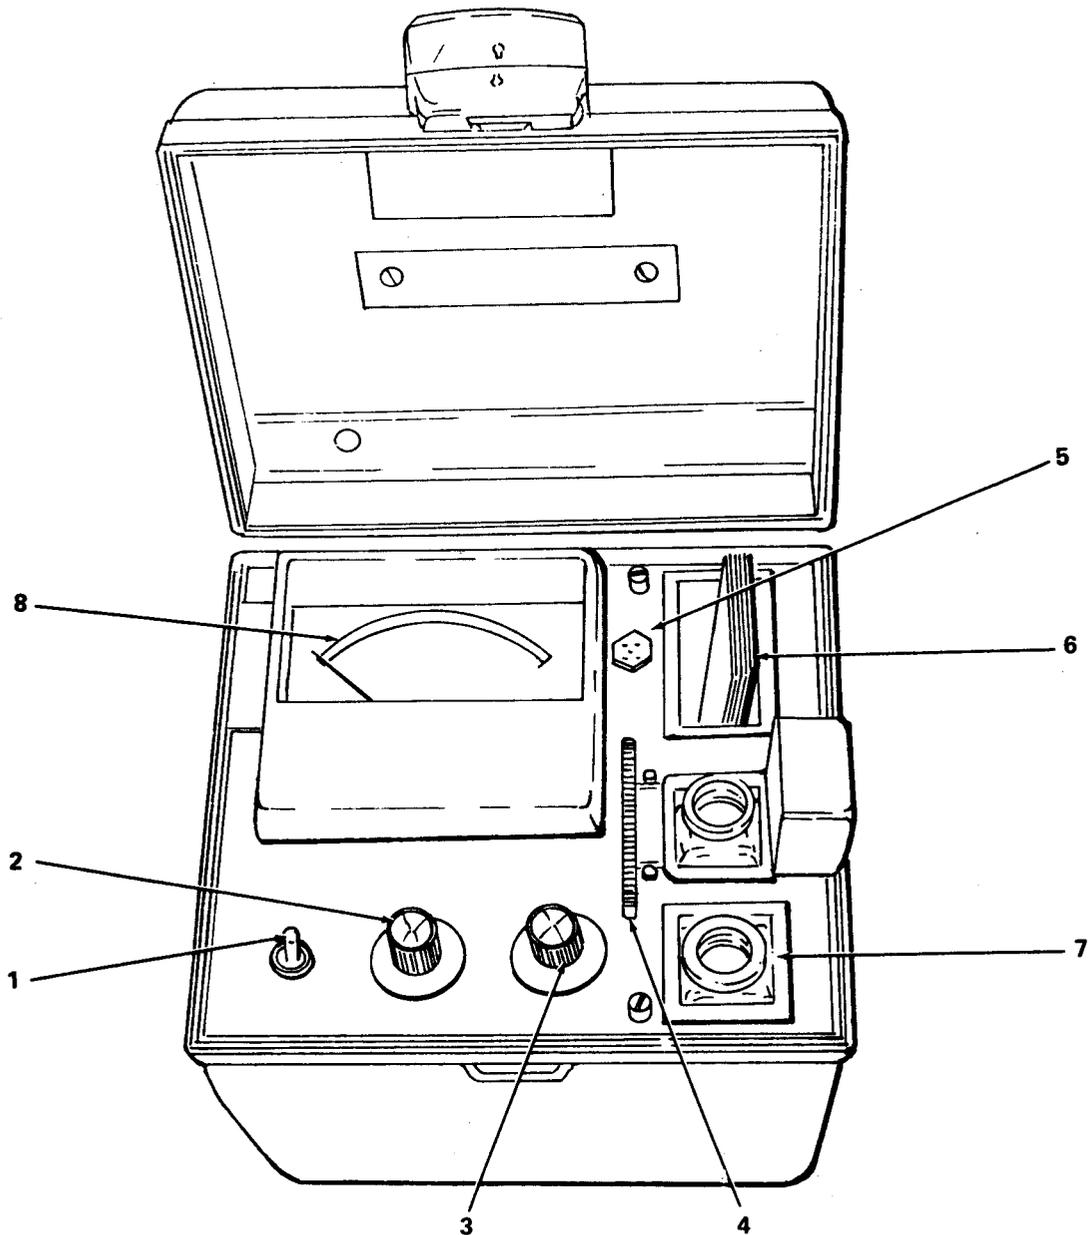

Figure 2-11. Spectrophotometer Control and Indicators
**(1) Controls and Indicators.** See figure 2-11 and table 2-6 for location and description of each control and indicator.
(3) Sample Preparation. The first task in any calorimetric test is to prepare the water sample. The applicable reagent or reagents are added to provide the color indicator for the substance to be measured. If the standardizing solution to be used requires some special treatment, it too is prepared at this time. Normally in the preparation of the sample, a minimum waiting period must be observed following the addition of the final reagent in order for the color to fully develop. There may also be a maximum time limit after which the color will begin to fade. Therefore, it is important to take the readings within the time period specified in the test to obtain accurate results.
b. Spectrophotometer in Use (fig. 2-11). The next step in the calorimetric test is to set up the spectrophotometer for the particular test. The standardizing solution (usually untreated water sample) is placed in the cell holder and the lid closed, the appropriate meter scale is inserted in the meter and the proper wavelength is dialed. Then the instrument is zeroed and standardized.
(1) To zero the instrument, the light switch is held in the zero check position while the zero adjust control is used to obtain a zero transmittance reading (needle aligned with the mark at the extreme left of the arc). If a % Transmittance-Absorbance meter scale is used, adjust for a % T reading.
c. After Use. Disconnect the battery pack cable and ensure that the AC voltage plug is connected next to the transformer on the power circuit board (figs. 2-11 and 2-12).
(1) The spectrophotometer, sample cells and instrument case should be kept clean at all times and spills should be wiped up promptly. The photocell window, located in the right-hand side of the cell holder, can be wiped with lense tissue or a soft, lint-free cloth which will not leave an oil film. Sample cells can be cleaned with soap and water or other cleaning solution. They should be rinsed
2-19. SPECTROPHOTOMETER TESTS (figs. 2-11 and 2-12). The spectrophotometer is used to conduct the tests in Paragraphs 2-19a through 2-19h. Prior to its use the operator should study paragraph 2-18, which describes the instrument and its operation. Accessory support items (lab-ware) for the tests are listed and located on the WQAS - Preventive Medicine Loading Diagram (fig. 1-5). In addition to the chemical precautions given in paragraph 2-18, the following electrical precautions apply.
a. Fluoride Test - SPADNS Method, 0-2.0 mg/l range (para 2-18 and figs. 2-11 and 2-12).
(1) Fluoride occurs naturally in some ground waters and a 1 mg/l level is normally maintained in public drinking water supplies for the prevention of dental cavities. Excessive amounts of fluoride cause an objectional discoloration of tooth enamel called fluorosis, though levels up to 8 mg/l have not been found to be physiologically harmful.